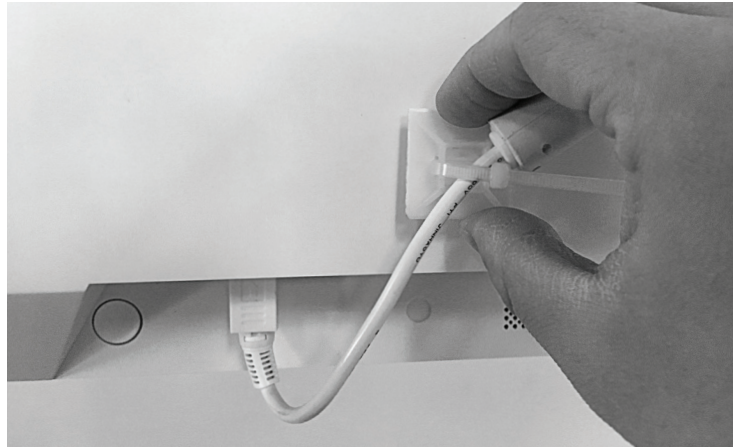

Figure 25: Secure the Power Cord
5. Secure the Power Cord to the back of the Touchscreen PC using a Zip Tie and Mounting base provided in the Computer Kit. See Figure 25.